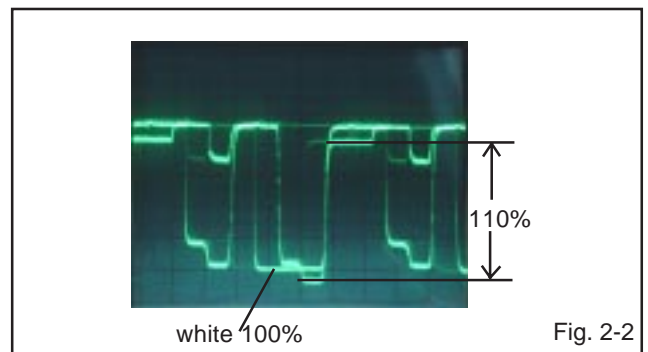

Fig. 2-2
6. Press the CH. UP/DOWN button on the remote control until the red color level is adjusted to $110 \pm 5\%$ of the white level. **(Refer to Fig. 2-2)**